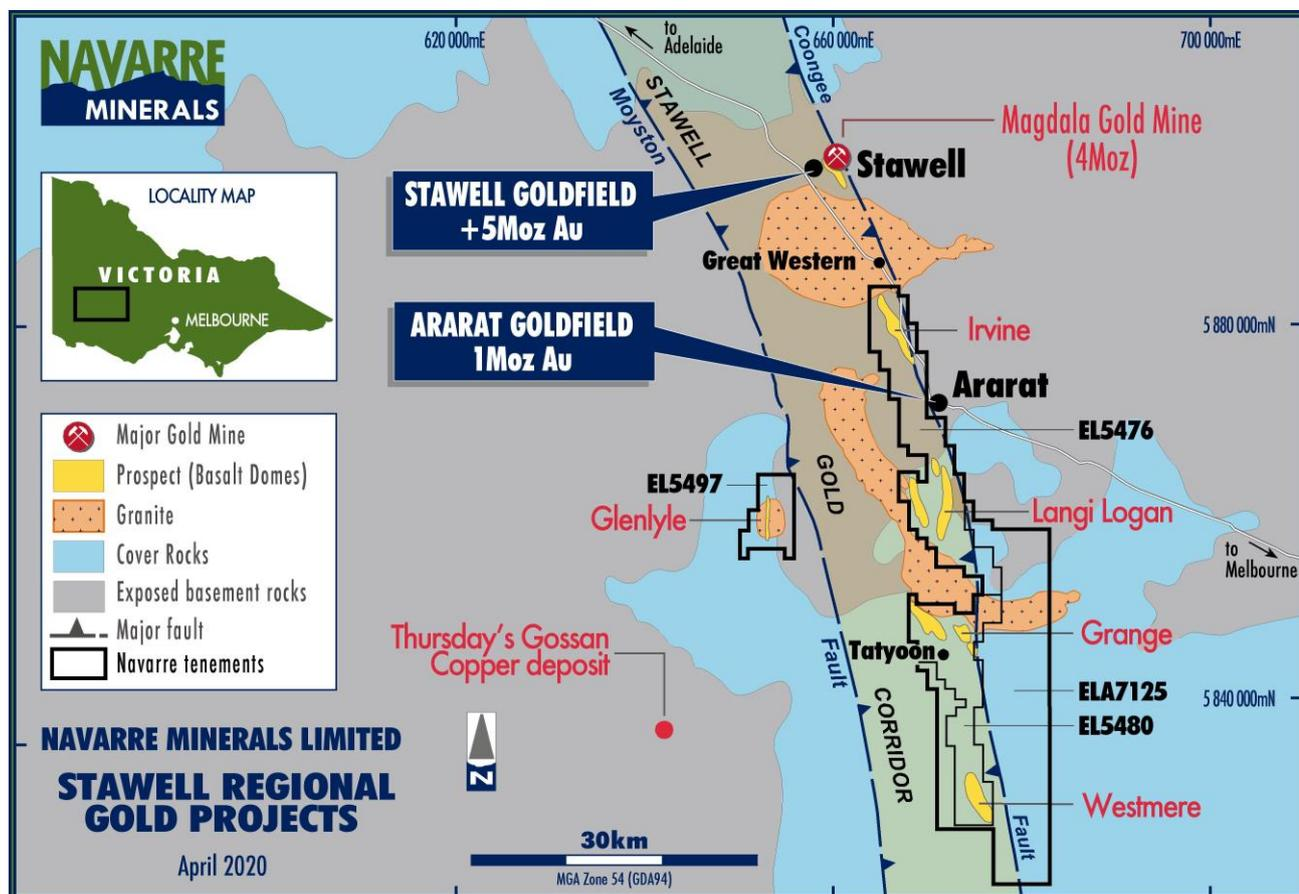

Figure 1: Location of Navarre’s western Victorian gold projects
Navarre Minerals Limited (**Navarre or the Company**) (**ASX: NML**) is pleased to announce encouraging new reconnaissance air-core (AC) drilling results from its 100%-owned Glenlyle Project (EL 5497) in western Victoria, Australia (Figure 1).
The Glenlyle Project is located 25km south-west of Ararat, under 10 – 40m of Newer Volcanics cover, and approximately 25 kilometres north-east, on-strike, of Stavely Minerals Limited’s (ASX: SVY) recent Cayley Lode copper discovery at their Thursdays Gossan project (see Figures 1 & 2).